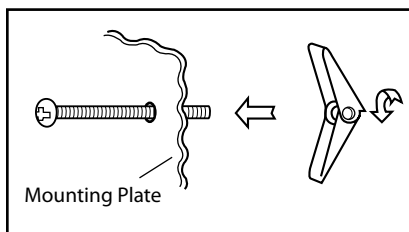

Figure 17
1. Separate 4 Toggle Bolts ②, packed in the INSTALLATION HARDWARE, from the Toggle Nuts.
2. Use Wood Screws ① to attach Mounting Plate to the stud or studs. Use Toggle Bolts to attach Mounting Plate through the holes at A, B, C and D; UNLESS THOSE HOLES ARE LOCATED ON THE STUD. Insert one Toggle Bolt into A, B, C and D where appropriate (these correspond to the holes of the Wall Template) and put the Toggle Nuts onto the Toggle Bolts. Figure 17.